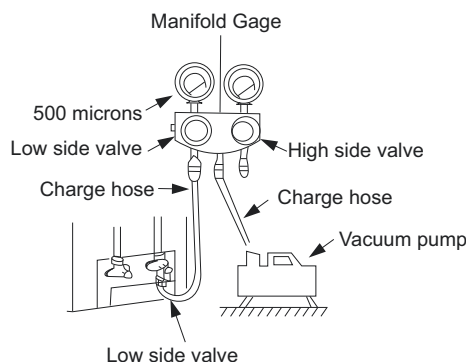

Fig. 24 — Manifold
3. Fully open the low side of manifold gage (see Fig. 24).